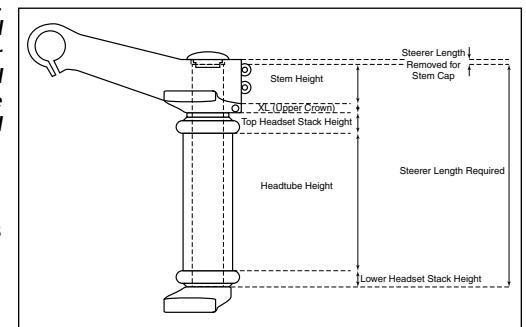

Fig. 3
3. The steerer tube may need cutting to proper length. To cut the steerer tube, removal of the upper tubes is required, or the upper tubes will be in the way when cutting the steerer tube to proper length. The steerer tube length is determined by the following parts: Judy XL upper crown steerer clamp length, stem steerer tube clamp length, frame head tube length and top and bottom headset stack height (see Fig. 3). To ease in the assembly, do not install the Judy XL upper crown on to the upper tubes until the steerer has been cut to the proper length and the lower crown has been fastened in the required position.